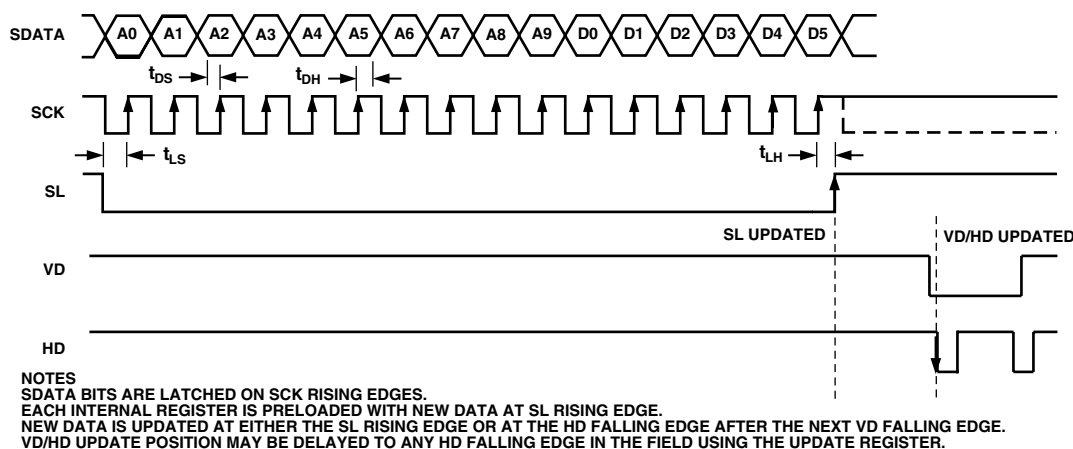

Figure 52. Serial Write Operation
All of the internal registers of the AD9891/AD9895 are accessed through a 3-wire serial interface. Each register consists of a 10-bit address and a 6-bit data-word. Both the 10-bit address and 6-bit data-word are written starting with the LSB. To write to each register, a 16-bit operation is required, as shown in Figure 52. Although many registers are less than six bits wide, all six bits must be written to for each register. If the register is only two bits wide, then the upper four bits are Don't Cares and can be filled with 0s during the serial write operation. If less than six bits are written, the register will not be updated with new data.
3. All registers are VD/HD updated as shown in Figure 52, except for the registers indicated in Table XVII, which are SL updated.